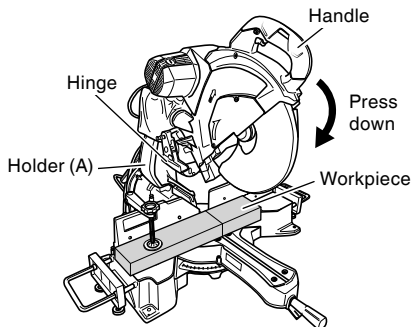

Fig. 26
Slide the hinge down to holder (A), then tighten the slide securing knob (see Fig. 2) as indicated in Fig. 26